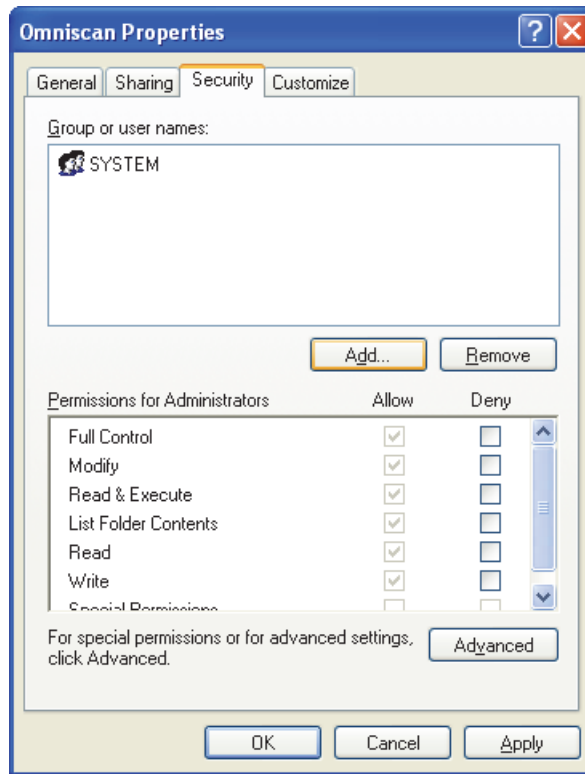

Figure 7-18 The Security tab of the Omniscan Properties dialog box (Windows XP)
12. In the **Omniscan Properties** dialog box, click the **Security** tab, and then click **Add** (see Figure 7-18 on page 208).